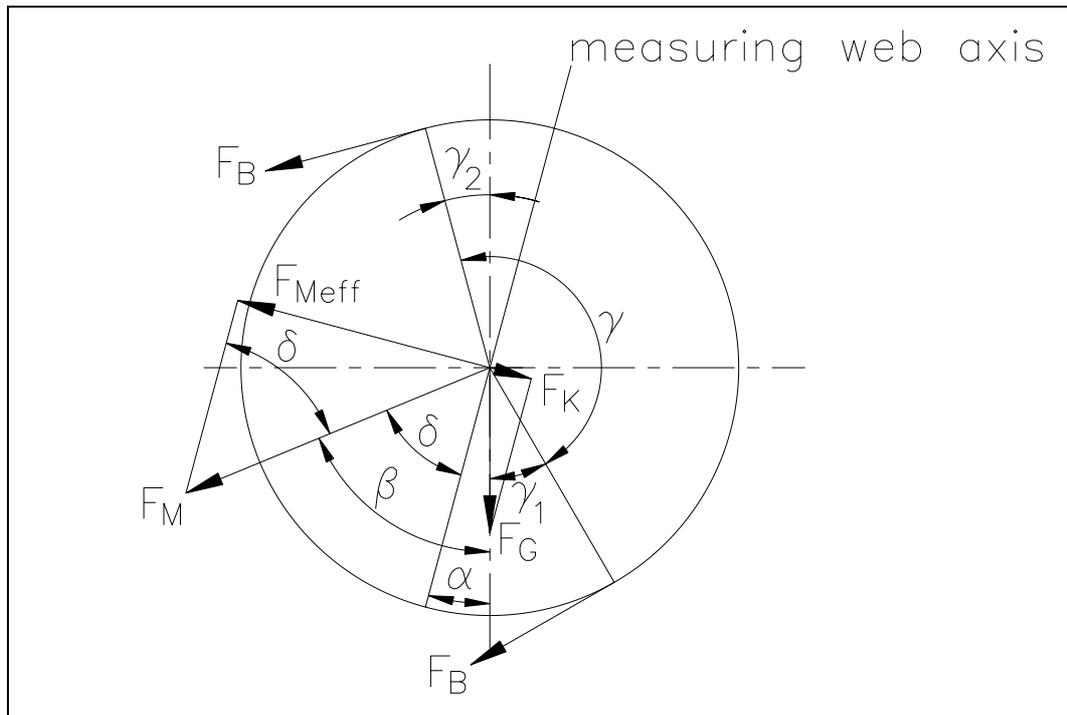
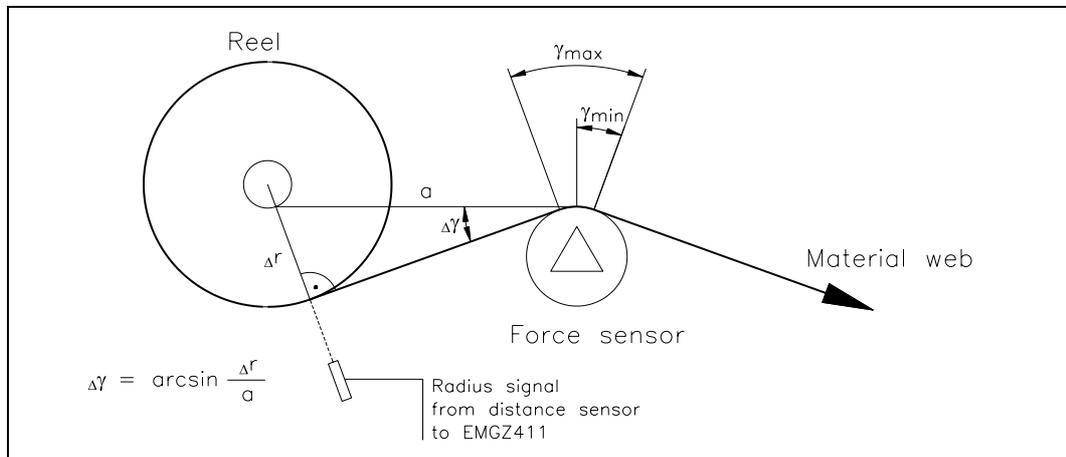

fig. 12: Force vectors in the FMS force measuring bearing
fig. 13: Application with varying wrap angle
If the measuring point operates with a varying wrap angle as it is found with winders or unwinders with no intermediate roller (fig. 13), the actual wrap angle has to be transmitted to the measuring amplifier. FMS recommends to acquire the actual reel diameter with a distance sensor and to lead the distance signal to the analogue correction input (terminals d6 / d8 resp. 7 / 8).
If the measuring point is operated with a varying wrap angle as it is found with winders or unwinders (fig. 13), the effective measuring force F_{Meff} is varying due to the geometric relations between F_B and F_{Meff} (ref. to fig. 12). The variations do also appear when material tension F_B is constant.
- Set arrangement to minimum wrap angle γ_{\min} (ref. to fig. 13). Calibrate gain and offset as written in „8.2 Calibrating the measuring amplifier“.
- Set arrangement roughly to medium wrap angle (ref. to fig. 13)
- Set arrangement to maximum wrap angle γ_{\max} (ref. to fig. 13).
- Set arrangement to minimum wrap angle γ_{min} (ref. to fig. 13). Calibrate gain and offset as written in „8.2 Calibrating the measuring amplifier“.
- Determine the following application data as accurate as possible referring to fig. 12:
Now the linear correction is ready for operation. The measuring amplifier tracks now the straight line (fig. 13), depending on the radius signal of the distance sensor. Maximum deviation of the feedback value in relation to the effective material tension equals to e_{max} .